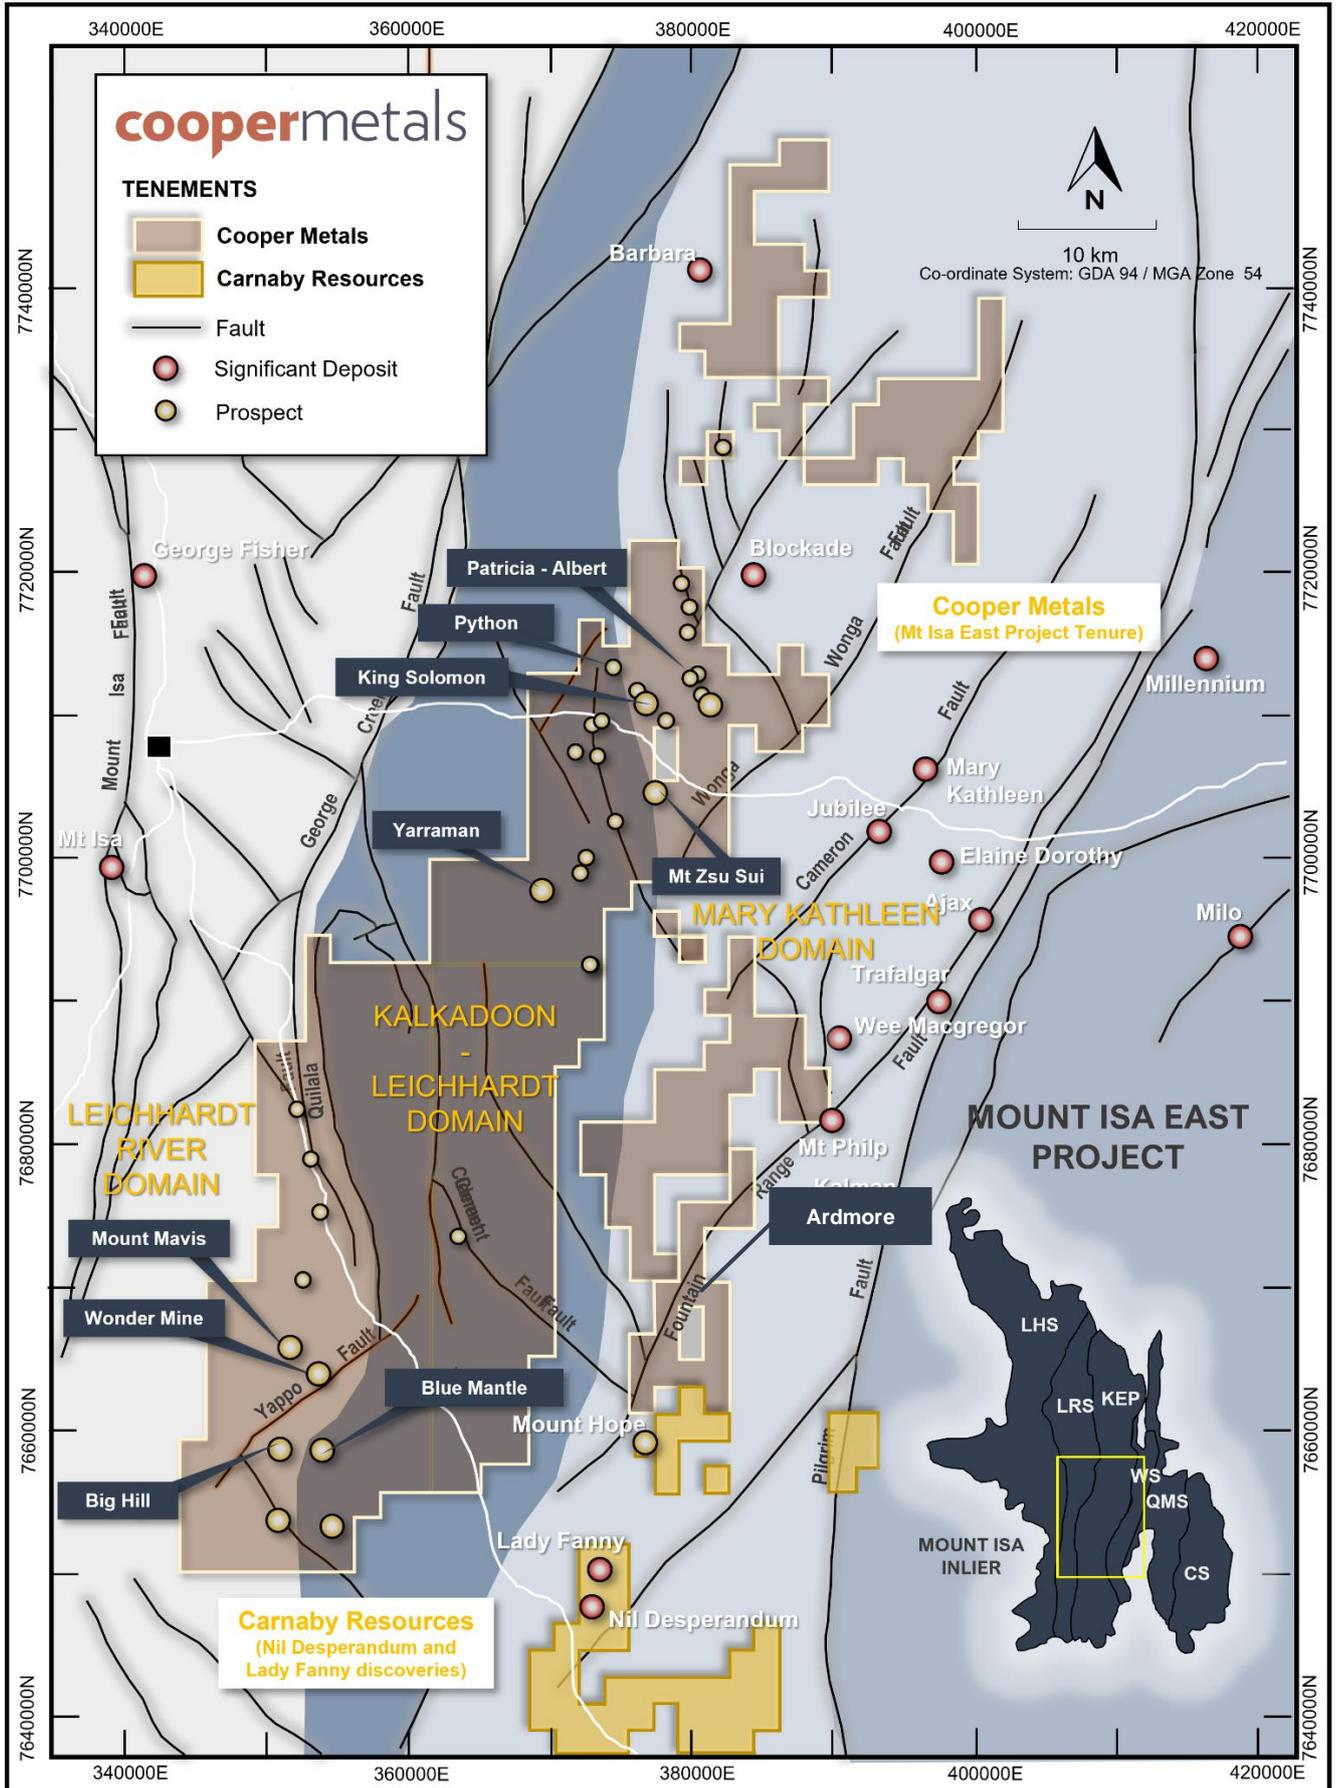

Figure 3: Mt Isa East Project Location Plan
Cooper Metals Limited (ASX: CPM) (“CPM” or “the Company”) is pleased to provide an update on the results of the induced polarization (IP) survey and new geochemical sampling on the Ardmore tenement (EPM19125) within the Mt Isa East Copper Gold Project in northwestern Queensland (Figure 3).